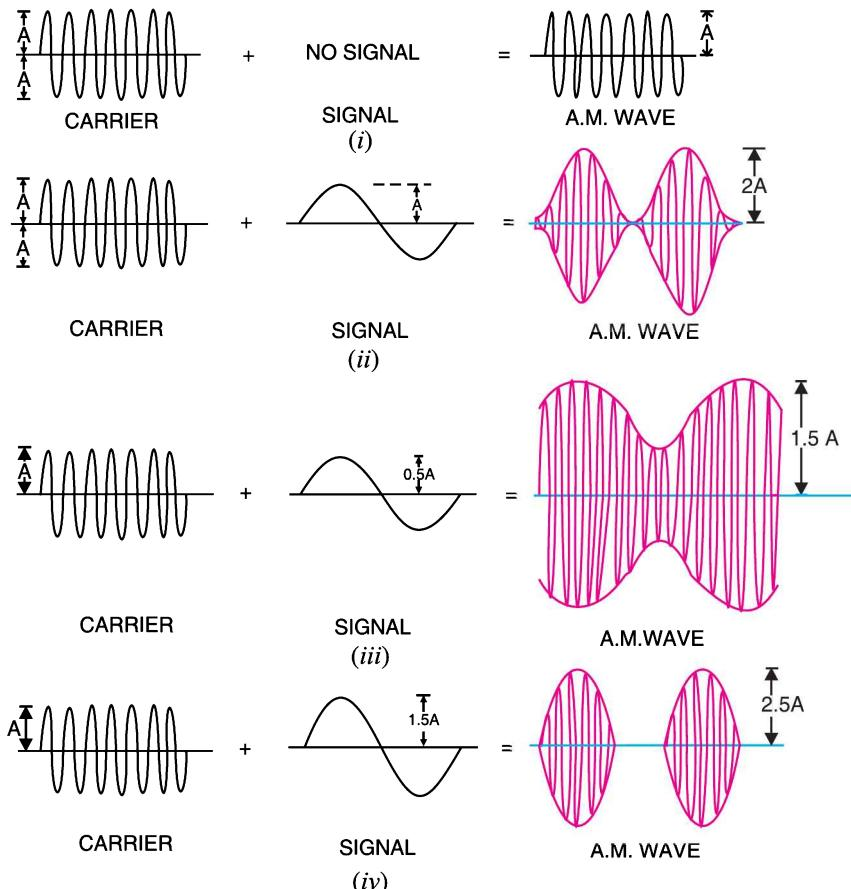

Fig. 16.3
The value of modulation factor depends upon the amplitudes of carrier and signal. Fig. 16.3 shows amplitude modulation for different values of modulation factor m .
- (i) When signal amplitude is zero, the carrier wave is not modulated as shown in Fig. 16.3 (i). The amplitude of carrier wave remains unchanged.
- (ii) When signal amplitude is equal to the carrier amplitude as shown in Fig. 16.3 (ii), the amplitude of carrier varies between $2A$ and zero.
- (iii) When the signal amplitude is one-half the carrier amplitude as shown in Fig. 16.3 (iii), the amplitude of carrier wave varies between $1.5 A$ and $0.5 A$.
- (iv) When the signal amplitude is 1.5 times the carrier amplitude as shown in Fig. 16.3 (iv), the maximum value of carrier wave becomes $2.5 A$.
Importance of modulation factor. Modulation factor is very important since it determines the strength and quality of the transmitted signal. In an AM wave, the signal is contained in the variations of the carrier amplitude. When the carrier is modulated to a small degree (i.e. small m), the amount of carrier amplitude variation is small. Consequently, the audio signal being transmitted will not be very strong. The greater the degree of modulation (i.e. m), the stronger and clearer will be the audio signal. It may be emphasised here that if the carrier is overmodulated (i.e. $m > 1$), distortion will occur during reception. This condition is shown in Fig. 16.3 (iv). The AM waveform is clipped and the envelope is discontinuous. Therefore, degree of modulation should never exceed 100%.